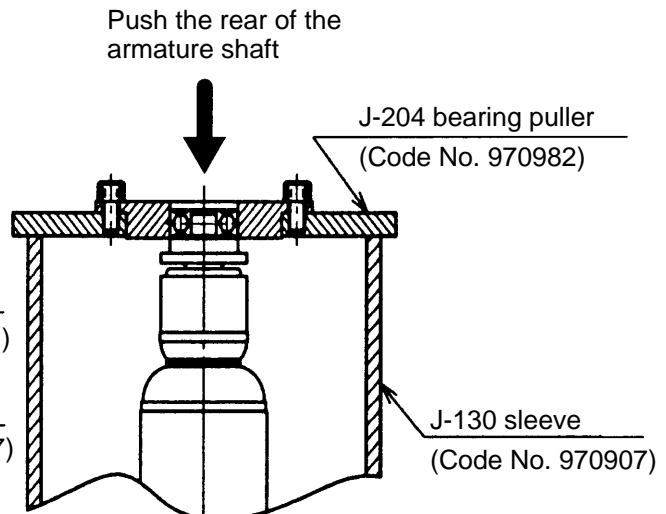

Fig.4
(5) As illustrated in Fig. 4, the Ball Bearing **[19]** can also be removed from the Armature Ass'y **[17]** by utilizing the J-130 sleeve (special repair tool, Code No. 970907) and a J-204 bearing puller (special repair tool, Code No. 970982).